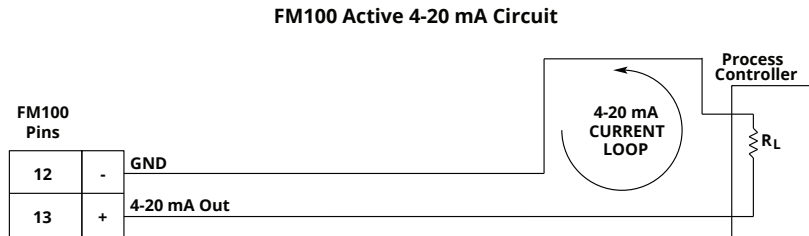
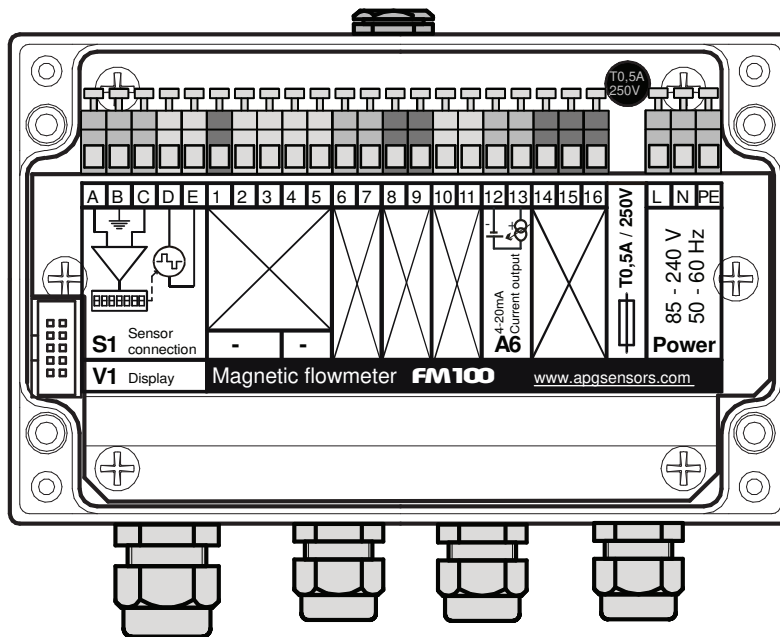

Figure 1.1 - 4-20 mA Wiring Diagram
Figure 1.2 - FM100 Terminal Layout
The FM100 comes with an active 4-20 mA output, and requires 85 - 240 VAC input power. The 4-20 mA loop is connected to pins 12 and 13 (See Figures 1.1 and 1.2), and power is connected on the L, N, and PE terminals at the far right (Figure 1.2).
- Insert the incoming power line through the right-most cable gland. Connect the wires to the L, N, and PE terminals (see Figure 1.2). Use the small flat head screwdriver to operate the terminals if necessary.
- Insert the 4-20 mA loop cable through another cable gland. Connect the wires to terminals 12 and 13 (see Figure 1.2). Use the small flat head screwdriver to operate the terminals if necessary.